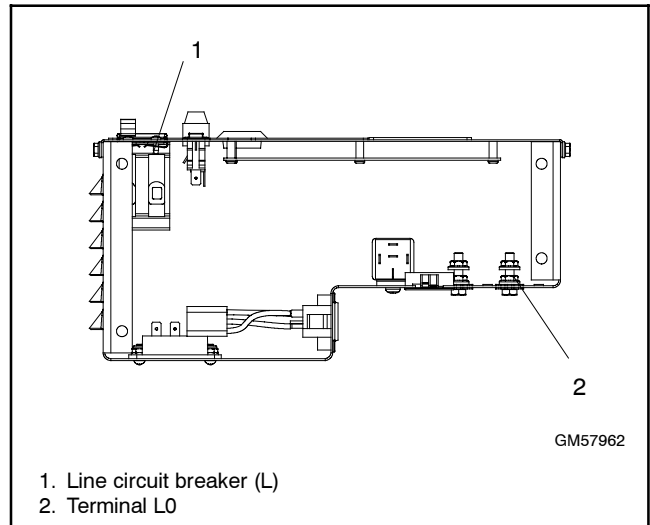
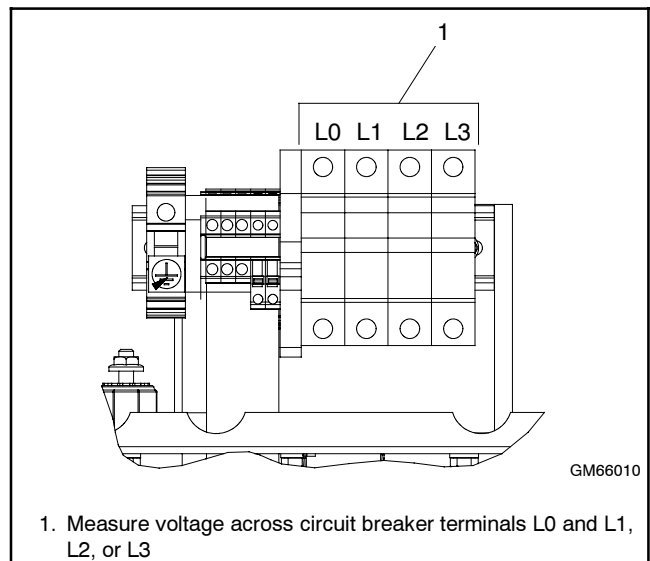

Figure 5-13 Circuit Breaker and L0 Terminal Location, Single-Phase Models
Figure 5-14 Voltage Measurement, Three-Phase Models
1. Connect a digital voltmeter from one side of the circuit breaker (L) to the L0 terminal inside the controller assembly. See Figure 5-13. For 3-phase models, connect the voltmeter from L0 to L1, L2, or L3 on the circuit breaker. See Figure 5-14. Set the meter to measure AC volts.